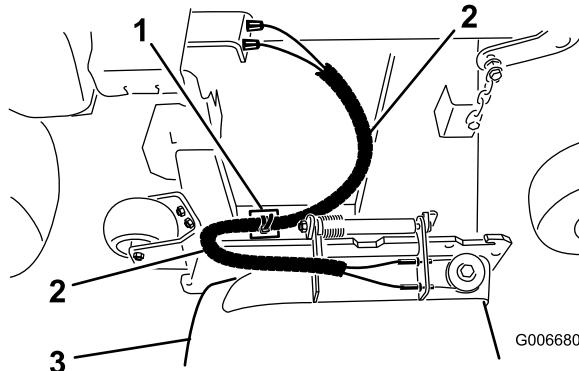

Figure 6
2. Use only one plastic mount and plastic tie and save the other for a spare. Install the adhesive back plastic mount on a smooth clean surface where the cables will not be pinched or kinked when the mower deck is raised and lowered (Figure 6).
3. Thread the cable tie through the plastic mount and secure the cables with the cable tie (Figure 6).